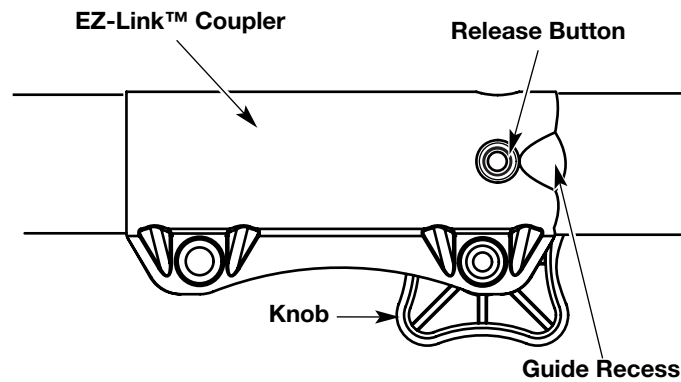

Fig. 23
1. Turn the knob counterclockwise to loosen (Fig. 23).
2. Press and hold the release button (Fig. 23).
1. Turn knob counterclockwise to loosen (Fig. 23).
**NOTE:** Aligning the release button with the guide recess will help installation (Fig. 23).